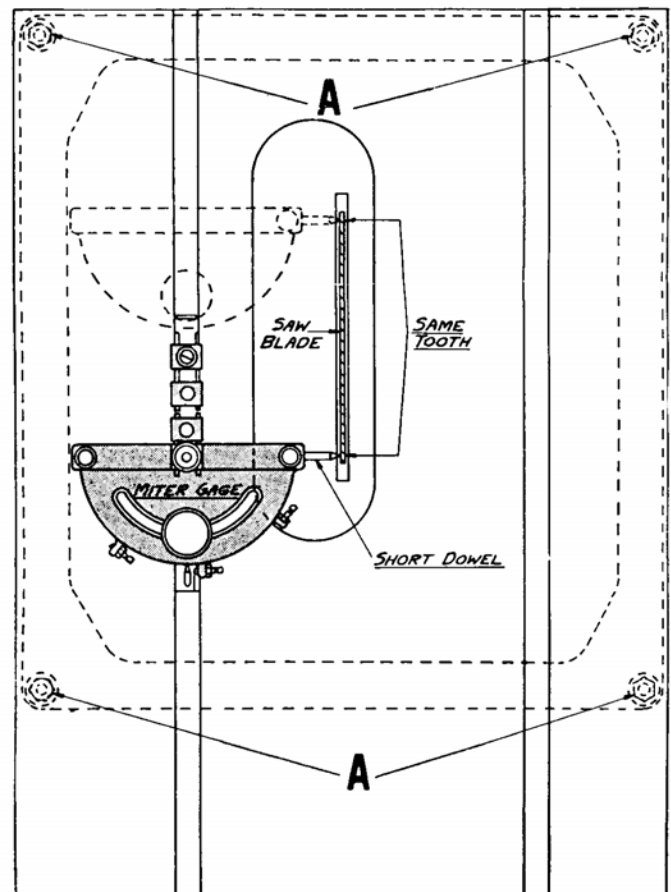

Fig. 12.
Fig. 12 shows a simple method of checking the alignment. Be sure to make the test on the same tooth in both front and rear position. If an adjustment is necessary, loosen the four hexagon head cap screws (A) Fig. 12, which hold the table to the top of the gusset of the cabinet, and shift table at front or rear until a position is found which brings the saw blade in the center of the insert slot and parallel to the miter gage slot. Tighten the screws securely to prevent the table from shifting.